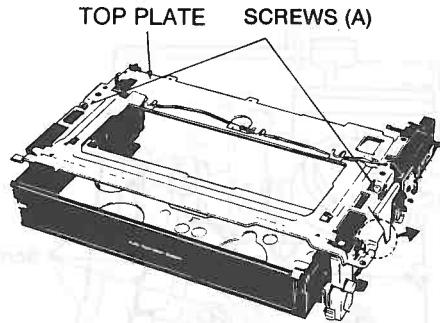

Figure M61
2. Remove the 2 screws (A) as shown in Figure M61.
9. Install the top plate on the Cassette Compartment Base and tighten the 2 screws (A) as shown in Figure M61.